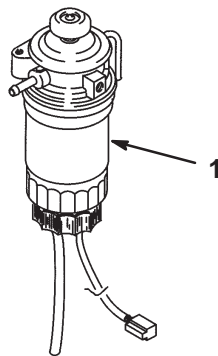

Figure 37
1. Clean the area where the filter canister mounts (Fig. 37).